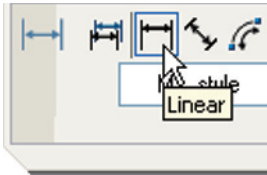

Fig. 6.2 The **Linear** tool icon in the **Dimensions** control panel
2. *Left-click* the **Linear** tool icon in the **Dimensions** control panel (Fig. 6.2) or on **Linear** in the **Dimension** toolbar. The command line shows: